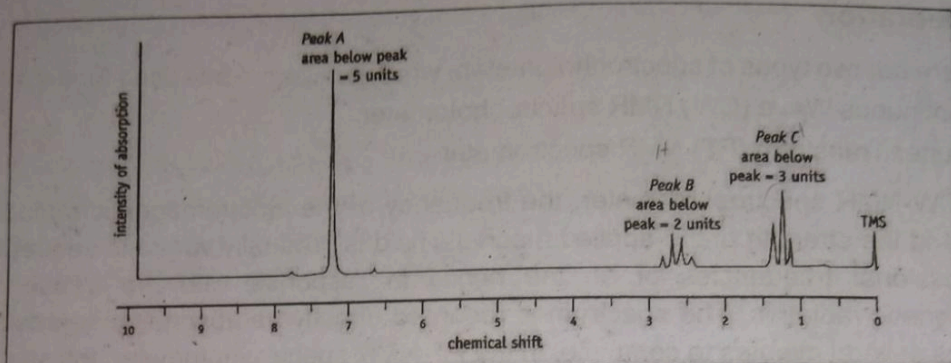

Figure 24.8: The proton NMR spectrum of ethylbenzene, $\text{C}_6\text{H}_5\text{CH}_2\text{CH}_3$
Figure 24.8 shows the NMR spectrum of ethylbenzene $\text{C}_6\text{H}_5\text{CH}_2\text{CH}_3$. This is a proton NMR spectrum: the frequencies correspond to the absorption of energy by ^1H nuclei, which are protons. Notice that there are three major peaks of differing heights. Each peak corresponds to H atoms in a different molecular environment. This area under each peak is proportional to the number of that type of H atom in the molecule. The largest peak (A) corresponds to the 5 H atoms in C_6H_5 , the benzene ring. The second largest (C) corresponds to the 3 H atoms in the $-\text{CH}_3$ group and the third peak (B) corresponds to the 2 H atoms in the CH_2 group.